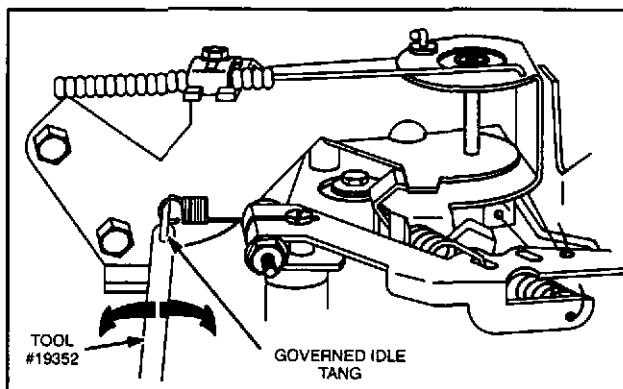

Fig. 24 - Adjusting Governed Idle
1. Move control lever to "SLOW" position. With an accurate tachometer and tang bender, Tool #19352, bend governed idle tang, (Fig. 24), to obtain RPM shown below: